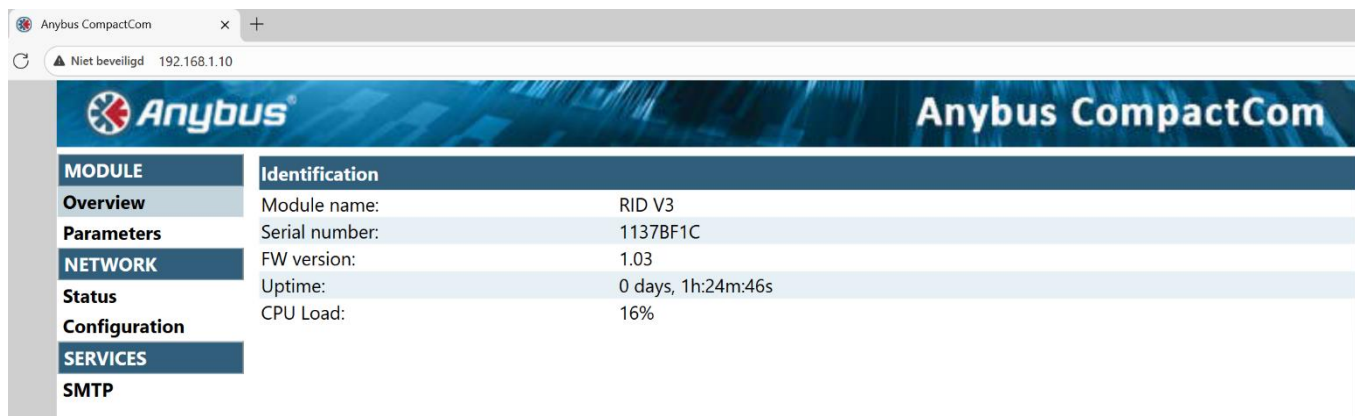

Figure 10 Anybus CompactCom Webserver
3. When the Anybus CompactCom webserver appears (see Figure 10), the RID module is successfully connected to the Ethernet/IP™ network.